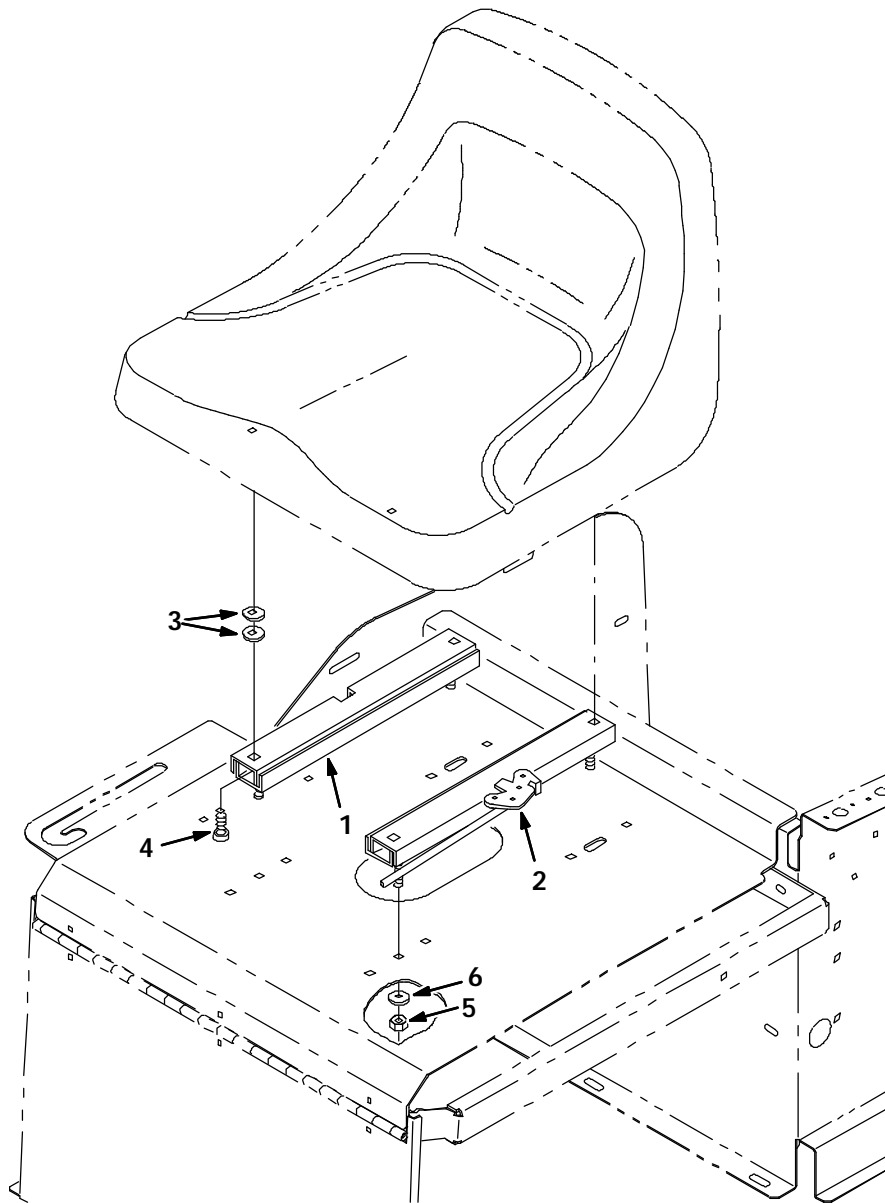

FIG. 1 - SEAT SLIDES KIT INSTALLATION
(Refer to FIG. 1)
3. Mount seat slides (1, 2) to seat with pan screws (4) and washers (3). (Refer to FIG. 1)
4. Install seat with new seat slides (1,2) to seat plate assembly with washers (6) and lock nuts (5). (Refer to FIG. 1)